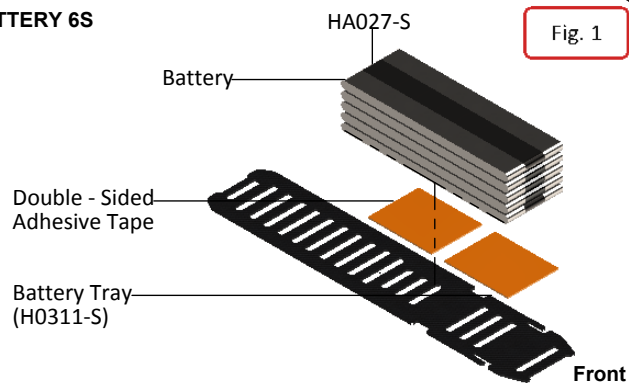
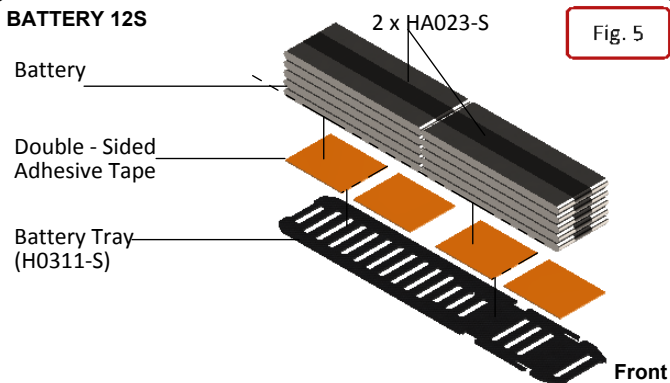

Fig. 1
Fig. 5
- \* Follow the figure for assembly the battery. You can see 6S solution (fig 1,2,3,4 ) and 12S solution ( fig 5,6,7,8 ).